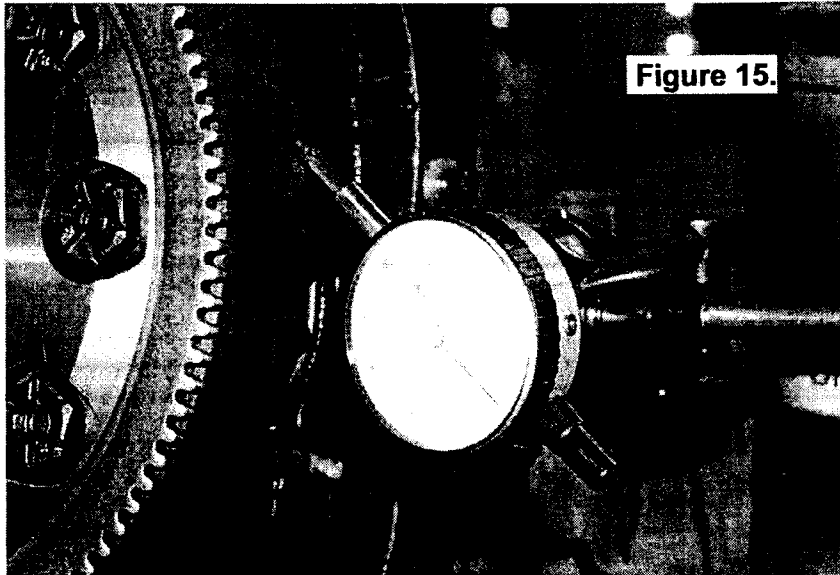

Figure 15.
- Set a plunge type dial indicator on one of the ring gear teeth as in Figure 15.